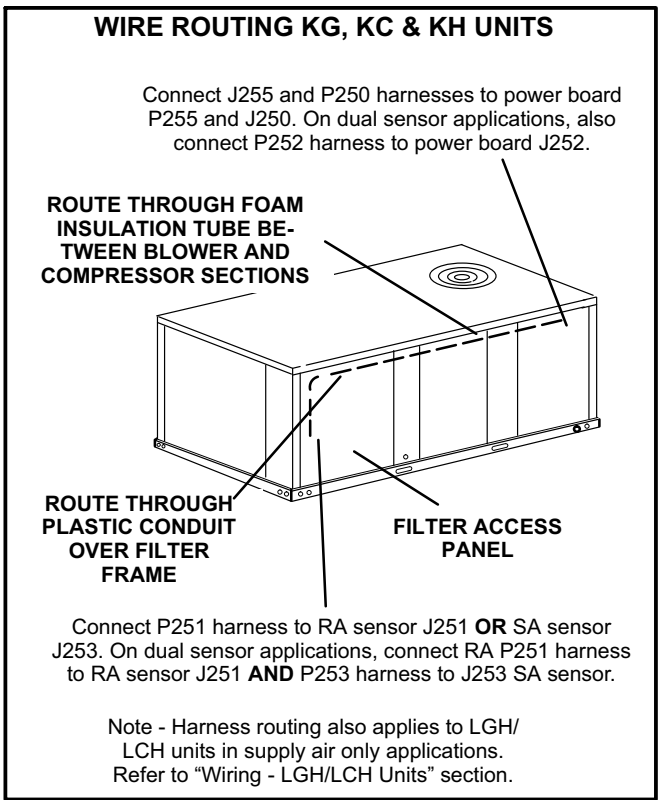

FIGURE 8
- 3 - Route harness wires to the top of the unit. Secure to existing bundle of wires and route to control area above compressor. See figure 8. Make sure wires are secured away from other components.
The kit jumper harness is used in single supply air applications only. Route harness as shown in figure 8. Discard harnesses in other applications.